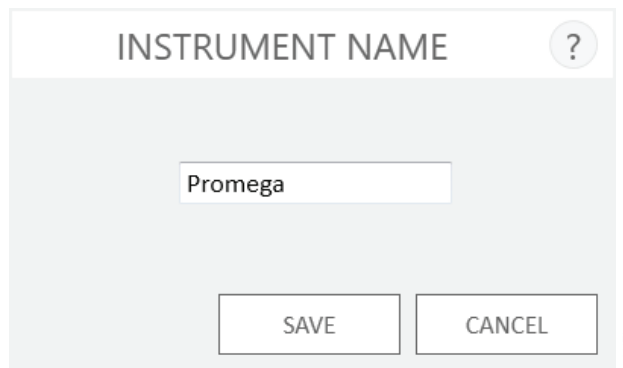

Figure 21. 'Instrument Name' screen. Use this screen to enter a name for this Maxwell® CSC instrument.
1. From the 'Administrator Page' screen, touch the **Instrument Name** button to open the 'Instrument Name' screen (Figure 21).